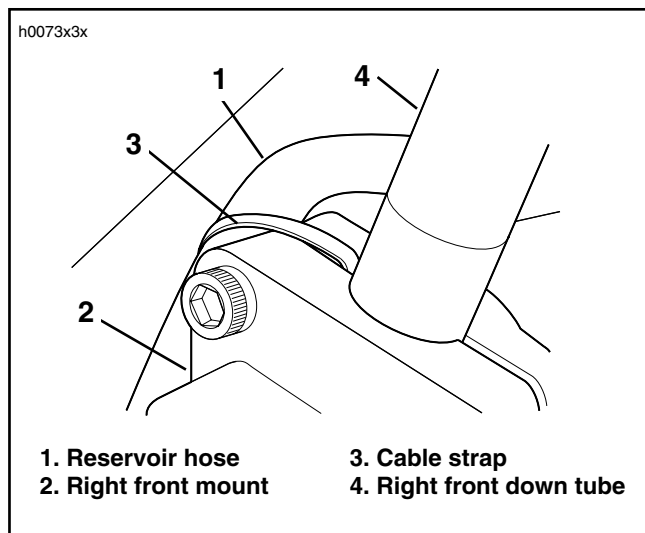

Figure 13. Securing Brake Reservoir Hose
2. See Figure 13. Route hose (1) from reservoir down behind lower right front mount (2) to master cylinder and secure with hose clamps.
3. Secure hose (1) to upper bolt in lower right front mount (2) by passing a cable strap (3) between the mount halves, around the bolt and hose as shown in Figure 13.